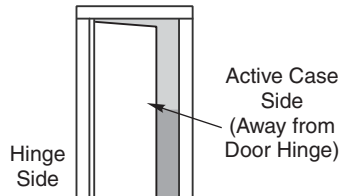

Figure 1
2. Mount chassis to door as indicated in Figures 1 and 2.